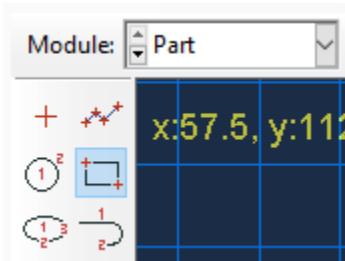

Figure 2-4 – Rectangle sketch tool.
- 4. To sketch the profile of the cantilever beam, you need to select the **rectangle drawing tool**, as shown in Figure 2-4.